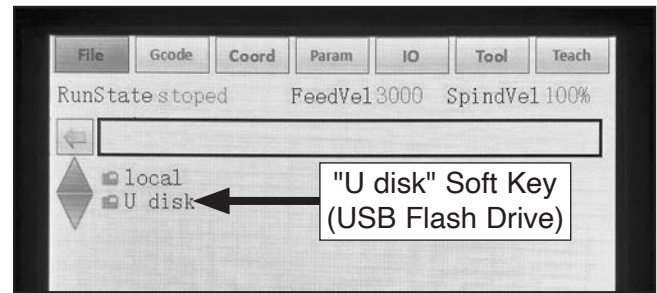

Figure 88. Location of "U disk" soft key.
5. Navigate to "U disk" soft key (see **Figure 88**) and press "Enter" button, then navigate to "Open" soft key and press "Enter" button to enter USB flash drive.